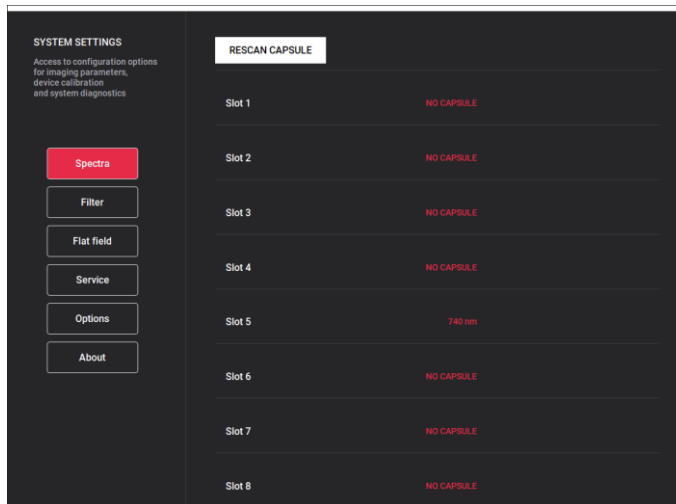

Figure 11. ChromaScan option in IRIS software settings
2. Access settings > spectra (Figure 11.)
8. When complete, press 'rescan' on the software and check all the capsules have been recognised (Figure 11.)